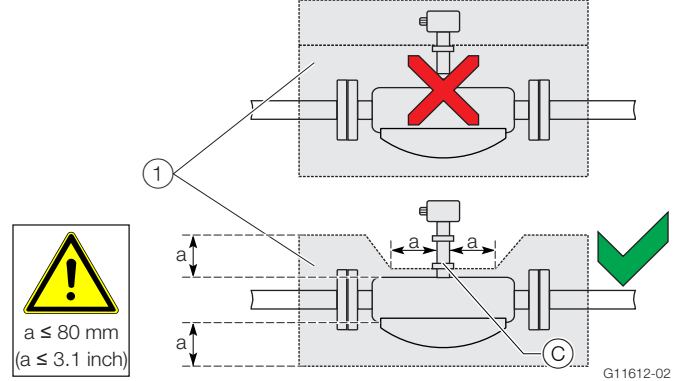

Fig. 12: Installation at $T_{\text{medium}} -50^{\circ} \dots 205^{\circ} \text{C} (-58 \dots 400^{\circ} \text{F})$
The sensor may only be insulated in conjunction with the option TE1 “Extended tower length for sensor insulation” or TE2 “Extended tower length – insulation capacity with dual gasket,” as shown in Fig. 12.
When operating the sensor in conjunction with heat tracing, the temperature at the point ① (Fig. 12) $100^{\circ} \text{C} (212^{\circ} \text{F})$ may not be exceeded at any time!